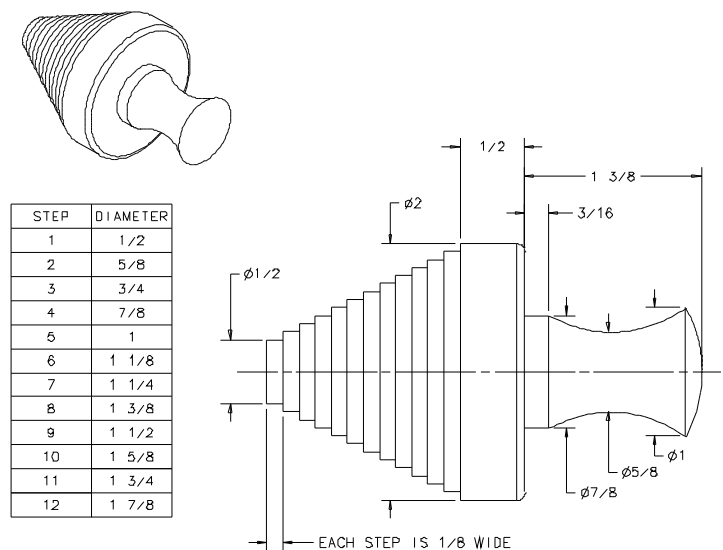

Figure 2: Step Plug Gauge Design
- Using a sharp 1/8" wide parting tool and a pair of calipers, turn the steps as shown in Figure 2. It is important that the steps are cut cleanly.